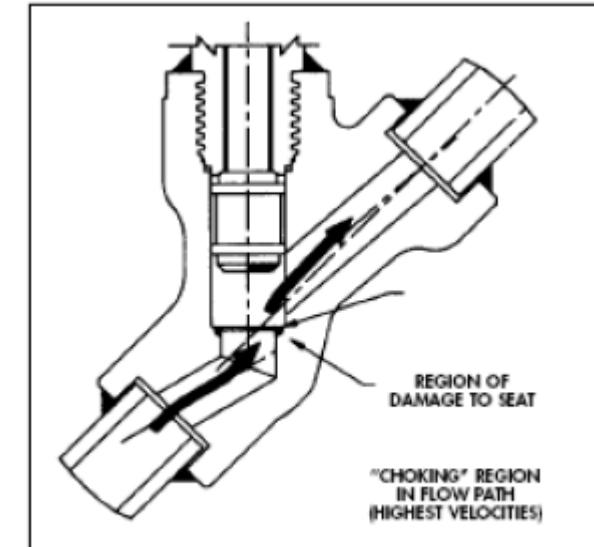

Figure 2: Seat Damage in Turbine Drain Valve
- Valve body seats showed large areas of very minor “frosted” erosion in the 4 o’clock to 8 o’clock position as viewed through the valve inlet. See Figure 2.